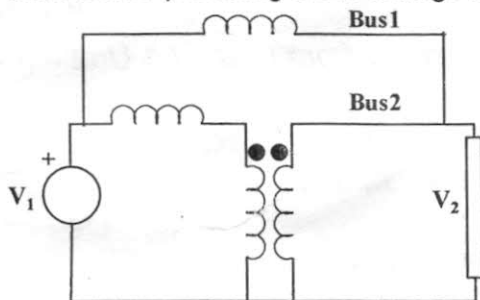

Fig Q6(a)
6. a) Consider the figure shown in FigQ6(a). Buses 1 and 2 are connected through parallel transformer T_1 with $X_1=j0.2$ and T_2 with $X_2=j0.4$. Bus 2 is a load bus supplying a current $I_{load}=1.05\angle-45^\circ$. $V_2=1\angle0^\circ$. Find the complex power transmitted to the load through each transformer if T_2 is a regulating transformer providing a 5% voltage magnitude boost. ($\bar{a}=1.05$)